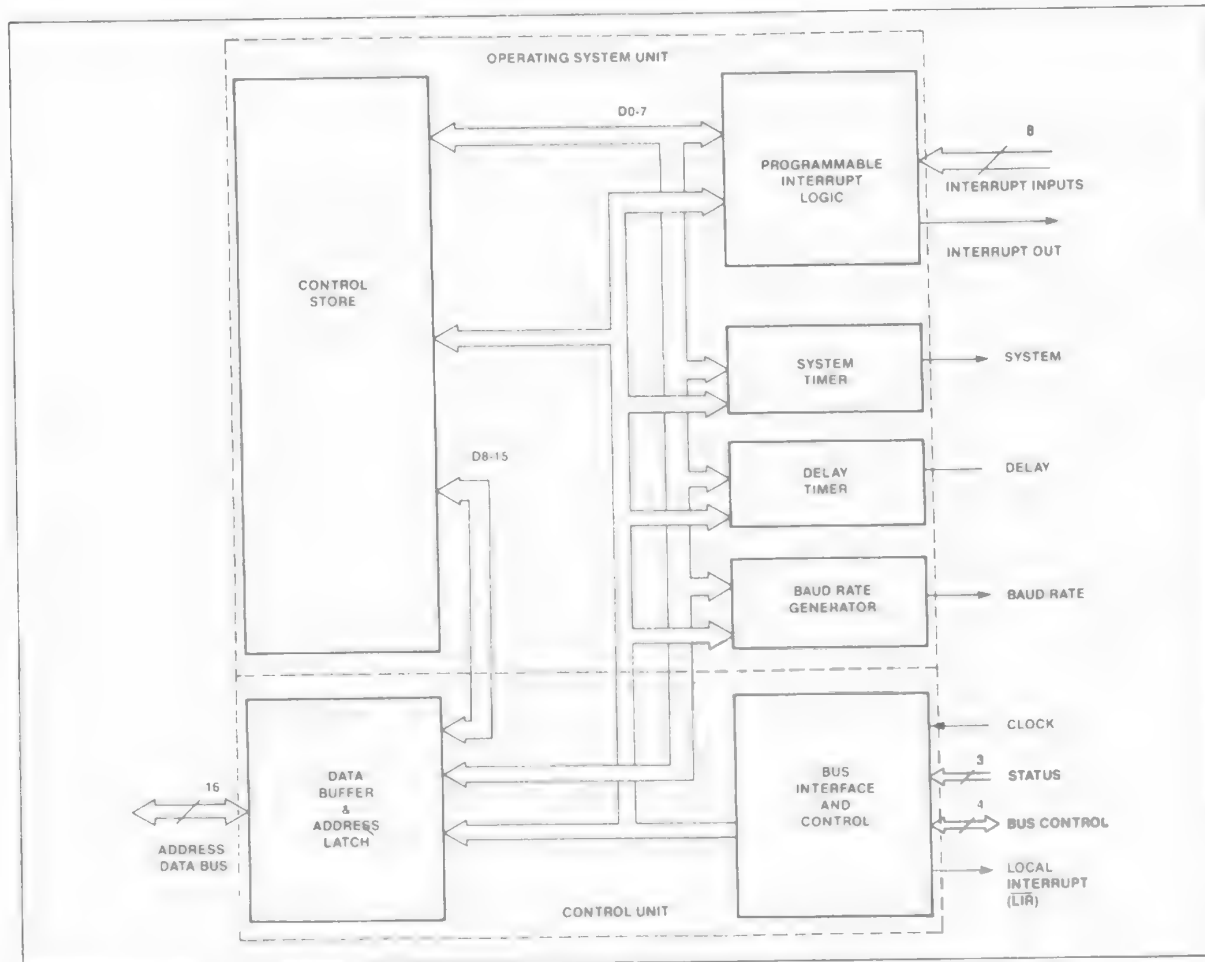

Figure 3. 80150 Internal Block Diagram
- A. **Hardware.** Figure 3 is a functional diagram of the 80150 itself. CP/M-86 is stored in the 16K-bytes of control store. The timers are compatible with the standard 8254 timer. The interrupt controller, with its eight programmable interrupt inputs and one interrupt output, is compatible with the 8259A Programmable Interrupt Controller. External slave 8259A inter-